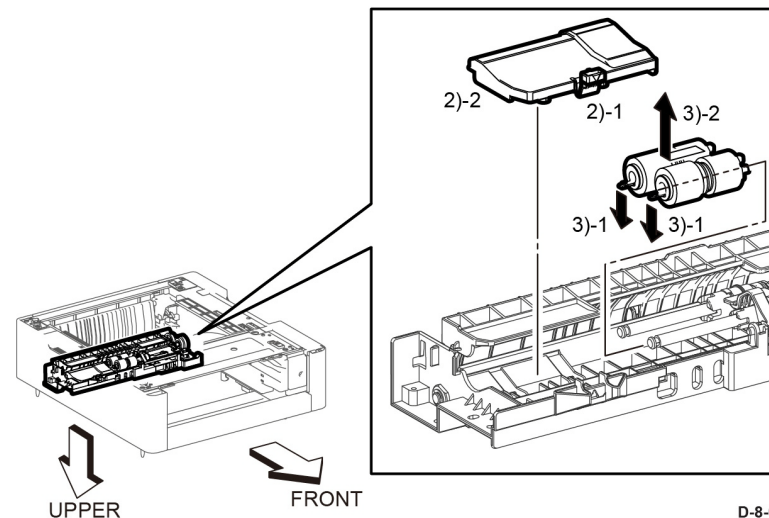

Figure 2 Locations to Hold the 550 Option Feeder
3. Perform the items that follow, Figure 2: